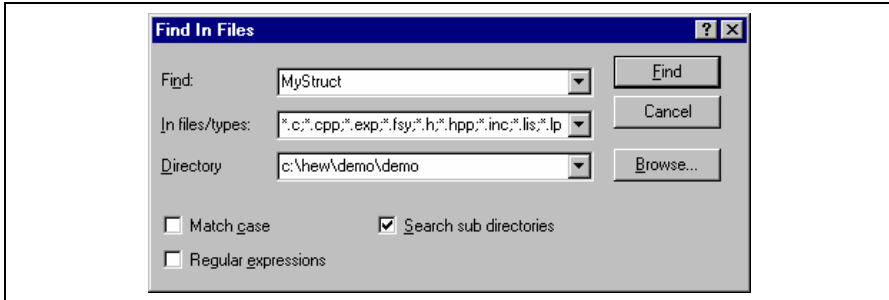

Figure 4.3: Find in Files Dialog
1. Select [Edit->Find in Files...], select [Find in Files...] from the editor window's local menu or click the find in files toolbar button (🔍). The "Find in Files" dialog box will be displayed (figure 4.3).